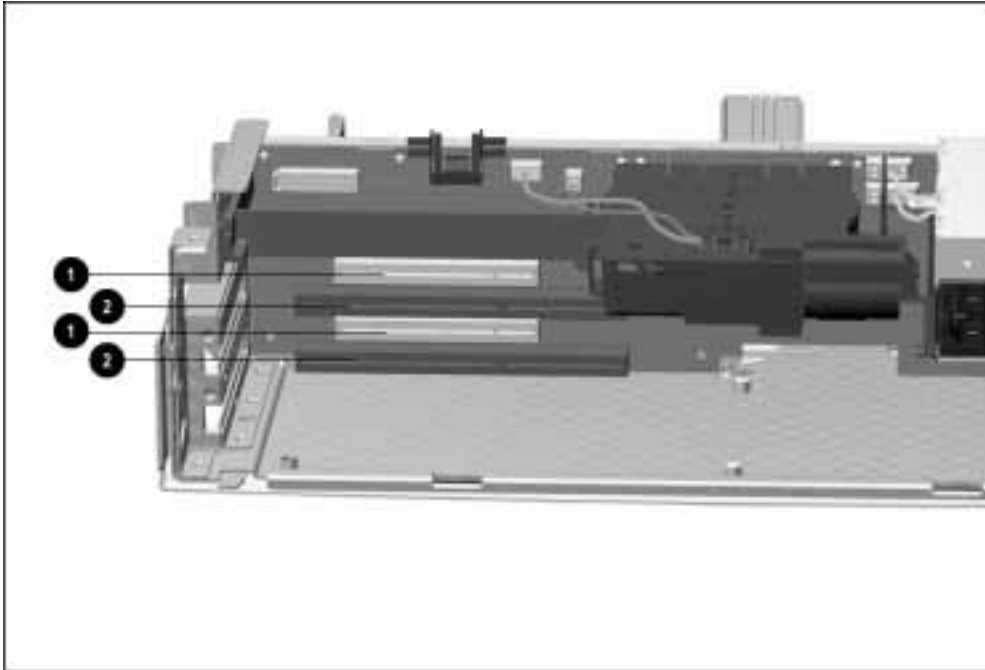

Figure 5-49. *Expansion Board Slots*
5. Select the slot into which the expansion board is to be inserted: PCI expansion boards are installed in the shorter slots ❶; ISA expansion boards are installed in the longer slots ❷ (Figure 5-49).